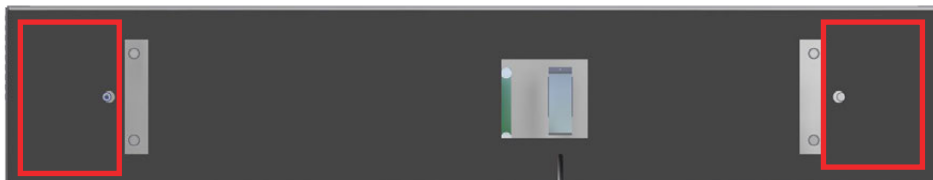

Fig. 34: Cut Out Rectangular Sections from Gasket
5. To access the cam lock and its new location, cut an area out of the gasket cover in the location shown by the red rectangles (Fig. 34).